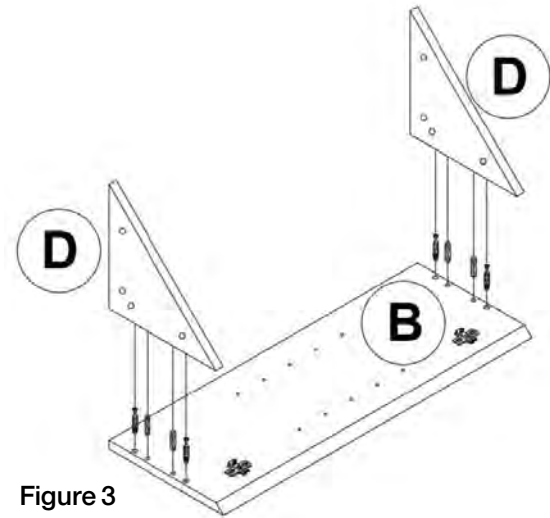

Figure 3
3. Install metal male cam locks (e) into designated holes on side panel (B). Use screwdriver to tighten. Install the wooden dowels (f) into designated holes. (Figure 3)
4. Install top panel & bottom panel (D) onto the right side panel (B). (Figure 3)